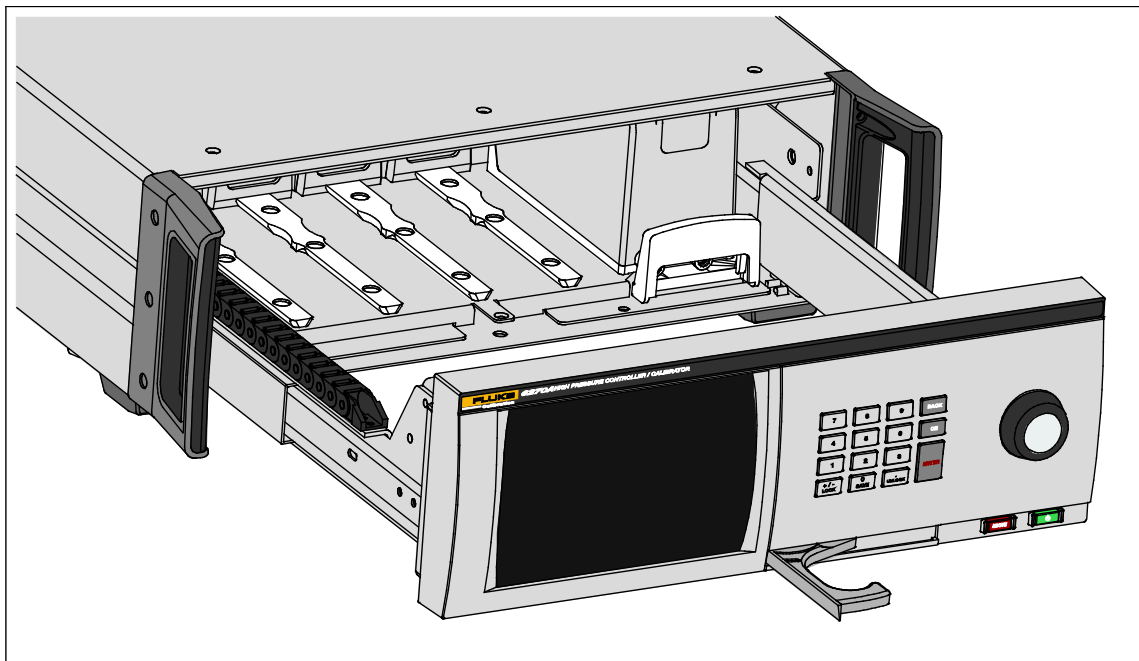

Figure 4. PCM Installation
5. The PCM location in the Module Bay is on the far right. Align the track on the bottom of the PCM with the PCM slot inside the Module Bay. See Figure 4.